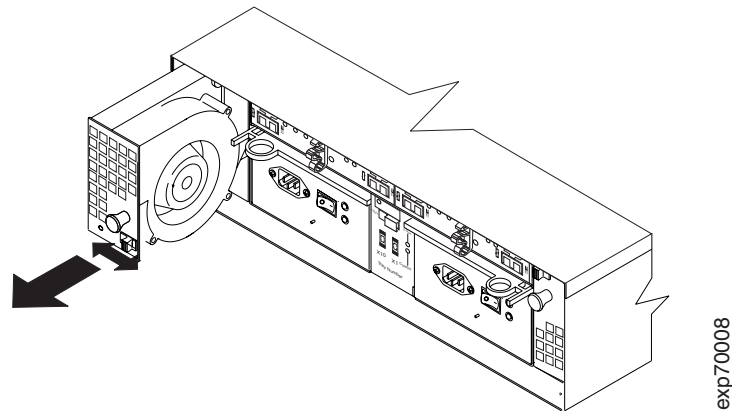

Figure 12. Removing a fan CRU
2. Grasp the handle and pull the fan unit out of the bay as shown in Figure 12.